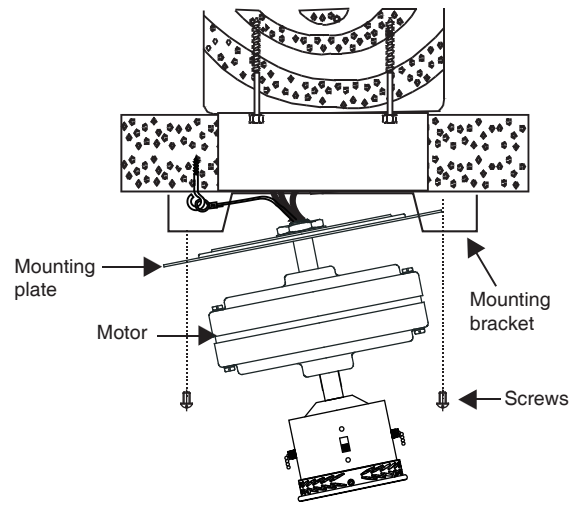

Fig. 7
1. Tilt the motor assembly up into position under the mounting plate. Secure the plate to the mounting bracket with the 3 mounting bracket screws provided (see Fig. 7).